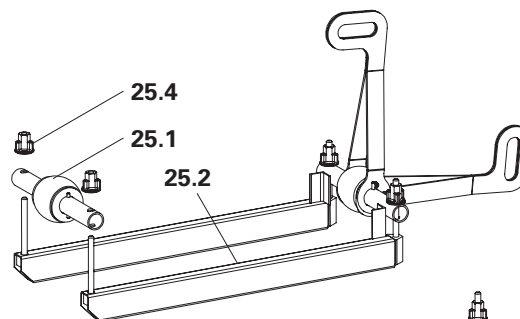
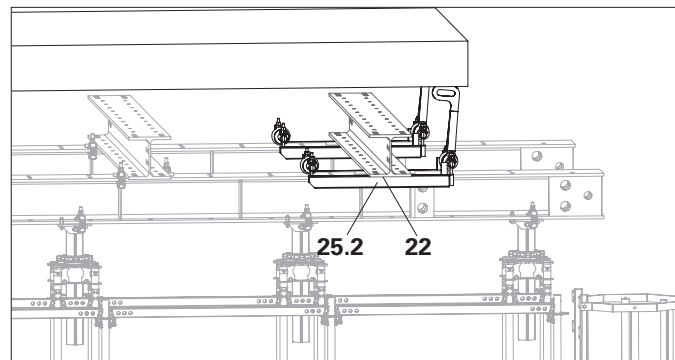

Fig. A7.07
Fig. A7.08
1. Remove cross tube (25.1) from the trolley (25). (Fig. A7.07)
2. Push the trolley (25) under the cross girder (22) onto the Main Beam HDT (20) and fix the cross tube (25.1).
3. Tighten the cam nuts (25.4) evenly until the longitudinal profiles (25.2) are in contact with the cross girder (22). (Fig. A7.08)